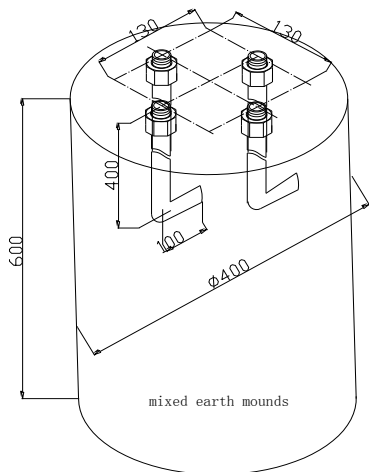

Figure1:manufacture of mixed earth mound
Figure 1 the fabrication of anchor, lasso and guy cable
5. Please refer to the national standard, or the European standard, or American standard or figure 1 in this manual to arrange grounding device.